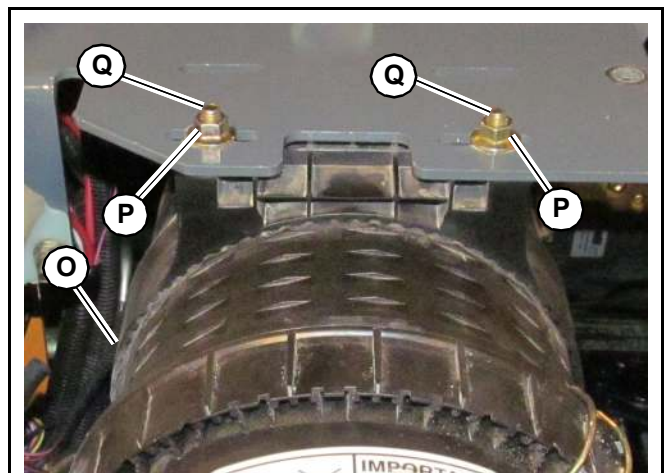

Fig. 333 – Install Air Cleaner Assembly
20. Secure air cleaner assembly (O, Fig. 333) to the air cleaner bracket using two locknuts (P) and two cap screws (Q).